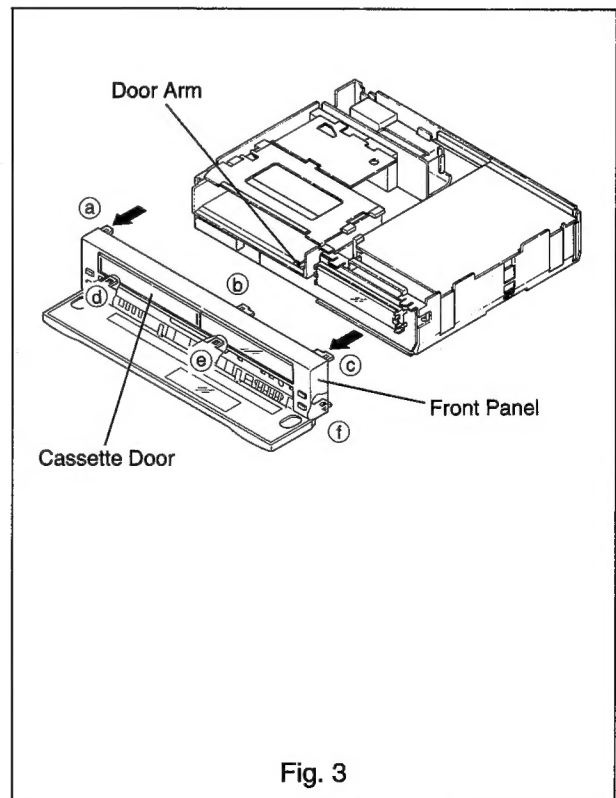

Fig. 3
- A. Remove the top cover (item 1).
- B. Unfasten six snaps (**a** ~ **f**) as shown in Fig. 3, and remove the front panel in the direction shown by the arrows.
- B. While holding the Cassette door open, mount the front panel to the VCR and fasten six snaps (Ⓐ ~ Ⓕ) using gentle pressure to the front panel as shown in Fig. 3.